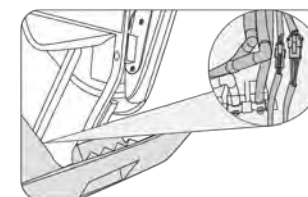

Figure 6
- Open the front dam-board, unplug the joint of the air pipe and the power cord that corresponds to the armrest. (Figure 6)